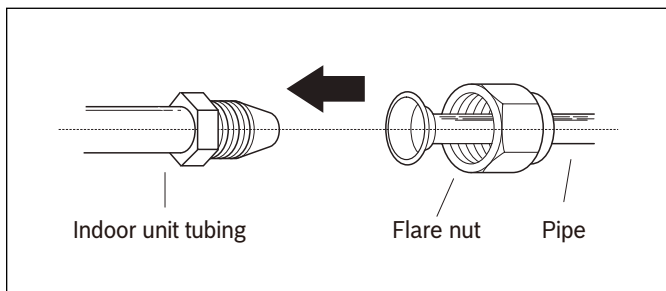

Figure 37
2. Align the center of the two pipes that you will connect. See Figure 37.